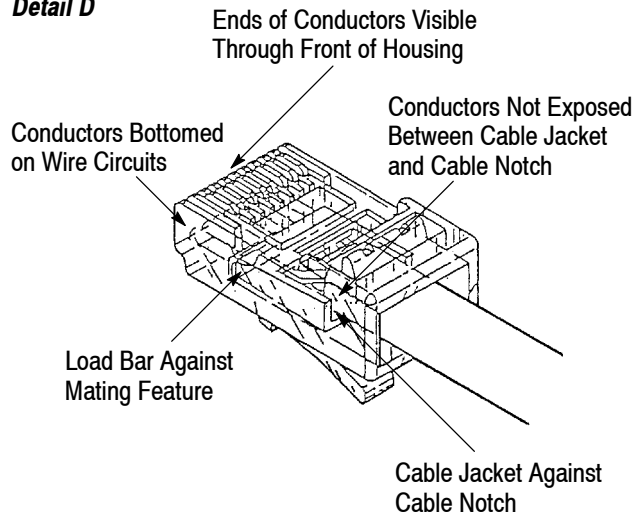

Figure 4
- a. Maintaining conductor arrangement, insert the conductors into the load bar (oriented so that the cable notch of the load bar will align with the contacts) until the cable jacket rests against the cable notch. Make sure that the conductor twist does not enter the front of the load bar. Trim the conductors evenly and square with the front edge of the load bar to the dimension given in Figure 4, Detail A.
- b. Retract the conductors from the load bar so that the conductors protrude from the end of the load bar to the dimension given in Figure 4, Detail B. Make sure that the top of the load bar is not deformed.
- c. Orient the load bar with the opening of the modular plug so that the cable notch is aligned with the contacts. See Figure 4, Detail C.
- d. Insert the load bar into the modular plug until it butts against the mating feature of the modular plug and the conductors are bottomed on the wire circuits. Make sure that the cable jacket is against the cable notch after the load bar is fully seated. Make sure that the conductors are not exposed between the cable jacket and cable notch and the ends of the conductors are clearly visible through the front of the modular plug. See Figure 4, Detail D.